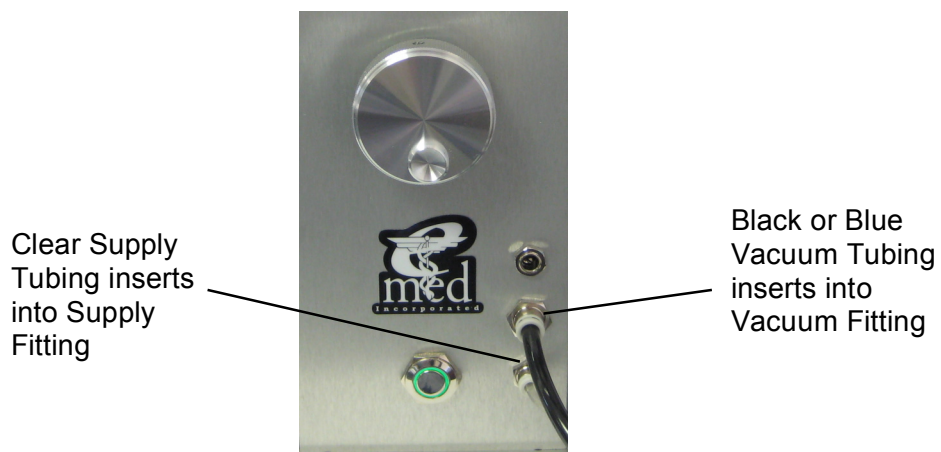

Figure 8: Front Console Tubing Connections
- c. At the opposite end of the tubing set, insert the clear supply tubing into the bottom gray fitting on the front of the machine. Insert the black or blue vacuum tube into the top gray fitting (see Figure 8).